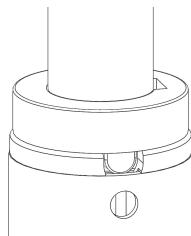

Figure 29 – Locking the oxygen bottle holder
2. Rotate and lock the oxygen bottle holder into the accessory sleeve (Figure 29).